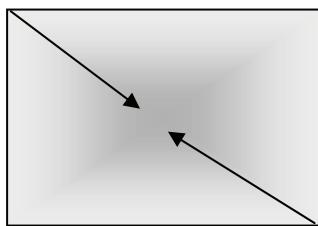

Figure 2
3. To obtain a good mix, gradually lift one corner of the plastic sheet, rolling the litter over itself towards the middle of the sheet. Do the same from the diagonally opposite corner. See Figure 2.